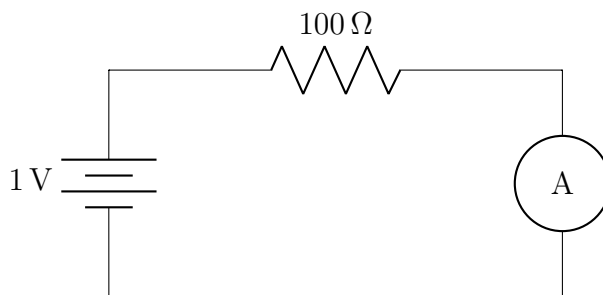

Figure 3: Circuit used to measure the internal resistance R_M of the ammeter
To determine the resistance of the DC ammeter, set up a circuit as shown in Figure 3.
3. Assemble the circuit shown in Figure 3. Set the multimeter to the ammeter mode for DC current measurement. Recall that you need to place the test leads in the correct banana jacks on the front panel and to press the proper sequence of softkeys (Hint: you may have to use Shift).
6. Determine the value of R_M from Equation (4).